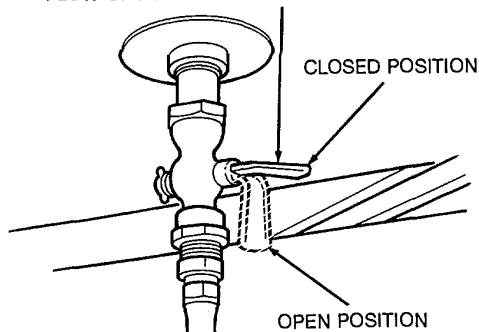

Figure 20. Fuel shut-off valve.
- (1) Perform the Operator/Crew Preventive Maintenance Checks and Services (para 32).
- (2) Open the fuel shut-off valve (fig. 20).